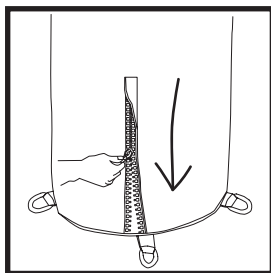

Fig. 1
3. Fasten the zip at the base of the pillar (Fig. 1).